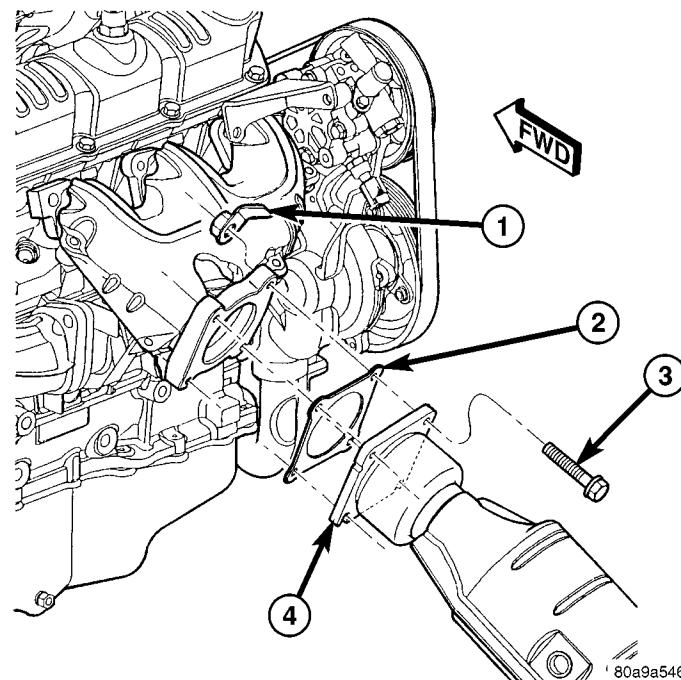

Fig. 7 Catalytic Converter to Exhaust Manifold
(34) Disconnect exhaust pipe from the manifold (Fig. 7).